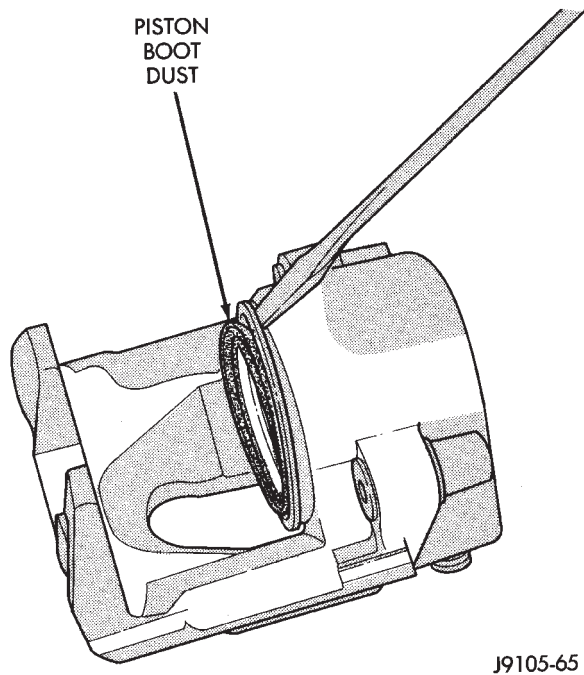

Fig. 40 Piston Dust Boot
- (1) Drain old brake fluid out of caliper into drain pan.
- (2) Remove piston dust boot (Fig. 40). Use screwdriver to push boot out of groove.